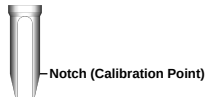

Figure 18: Calibration Point
- Dip the Elixir into test tank upto the notch (calibration point) as shown in Figure 18.